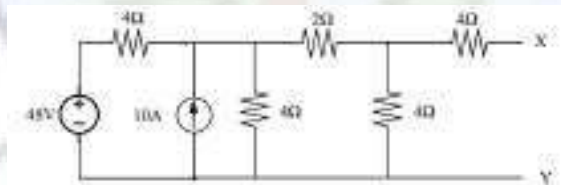

Figure 4
13. For the circuit given in Figure 4,